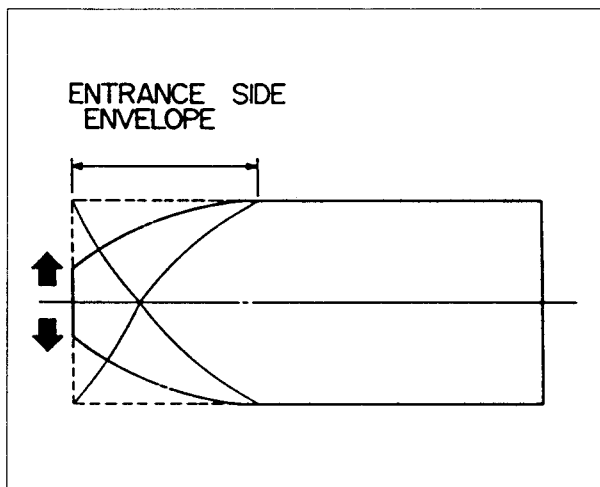

Fig. 4-71 Video envelope rising (operating mode is switched from RPS to Play)
1. Make recordings on T-120 (E-120) and T-160 (E-180) tapes, and make sure the playback output envelope meets the specification shown in Fig. 4-71.